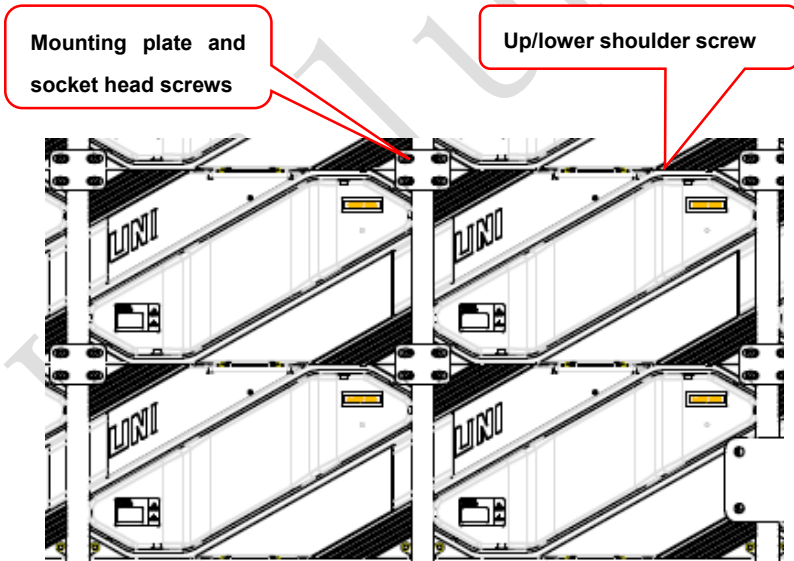

Figure 2-25 Upper and lower cabinet locked
- 4) After the first line of cabinet is installed, install the second line of cabinet, and fix the upper and lower cabinets with upper and lower plug bolts, as shown in Figure 2-25;